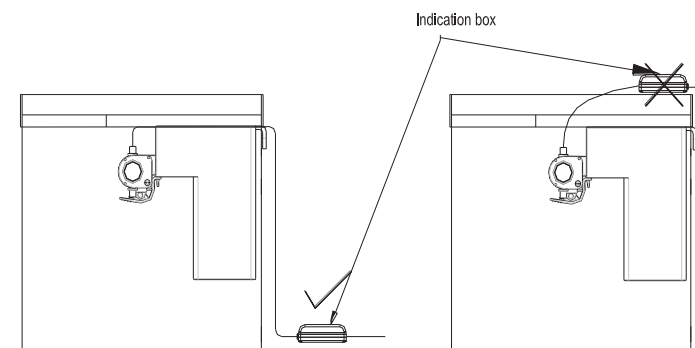

Fig.2
4. To avoid the risk of shorting by water vapor, the LED control box **MUST** be on the outside of the tank but **NEVER** on the top of the tank. (Refer to Fig.2)